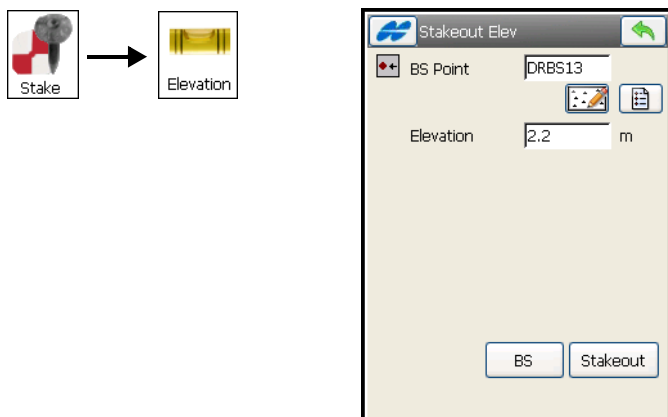

Figure 9-67. DL Stakeout Elevation
1. To stake out elevations, tap **Stake ► Elevation**. The *Stakeout Elev* screen displays (Figure 9-67 on page 9-50).